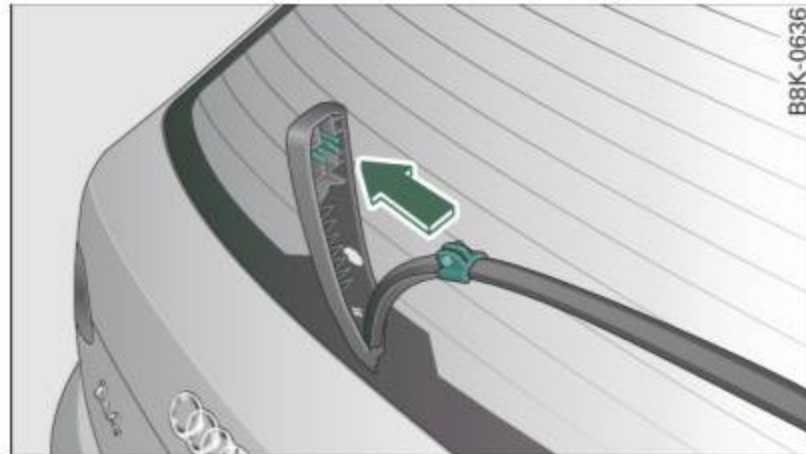

Fig. 64 Rear wiper: Removing the wiper blade
- Press the wiper blade holder in the arrow direction ⇒ fig. 64 into the mount.